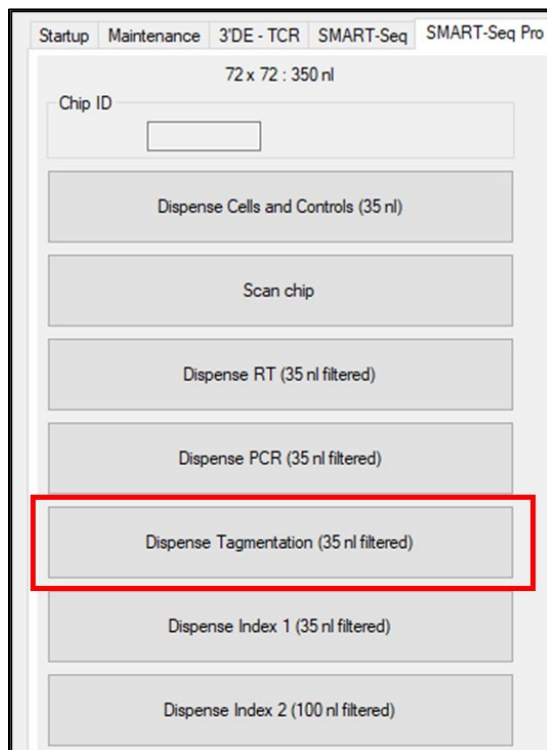

Figure 19. Using CELLSTUDIO software to dispense the Tagmentation Master Mix.
- b. At Step 8, click the [Dispense Tagmentation (35 nl filtered)] button (Figure 19).